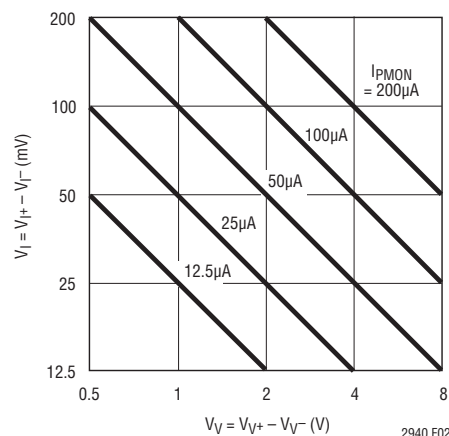
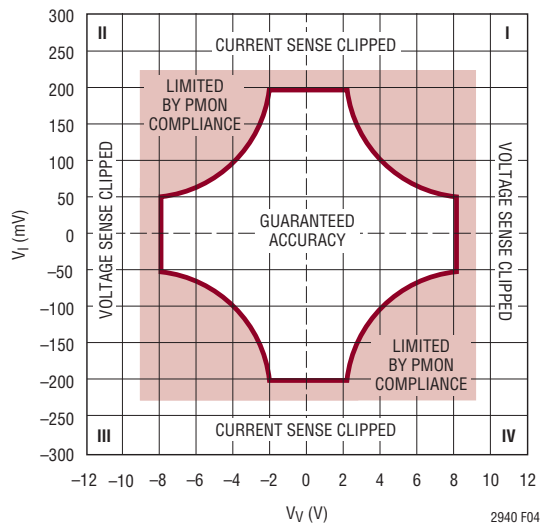
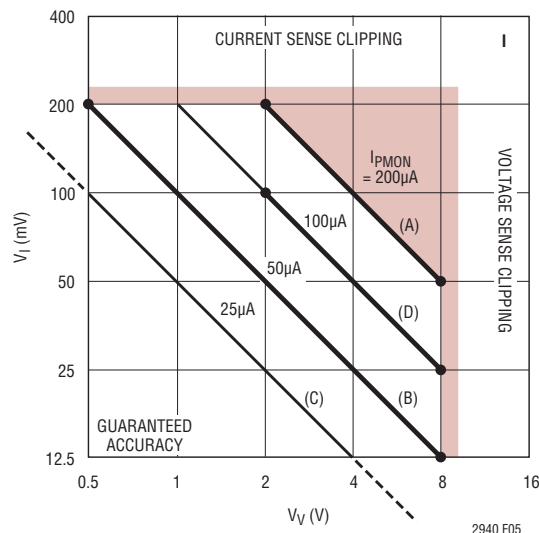

Figure 2. PMON Output Current as a Function of Sense Input Voltages
Figure 4. Multiplier Operating Regions vs Sense Input Voltages. Accuracy Is Derated in Shaded Areas
Figure 5. Various Constant-Power Curves in Quadrant I
The multiplier core full-scale product of $\pm 0.4V^2$ may be reached over a range of voltage and current inputs, as shown in Figure 2. For example, voltage sense and current sense combinations of 8V and 50mV, 4V and 100mV, and 2V and 200mV each multiply to $0.4V^2$, and thus produce 200 μA at PMON. This arrangement allows the core to operate at full-scale, and therefore at best accuracy, over a 4:1 range of current and voltage, a readily appreciated feature when monitoring power in variable supply applications.
The output current may be positive (sourcing) or negative (sinking) depending on the signs of V_{IN} , k_V , I_{IN} , and k_I . Provided that the magnitudes of V_V and V_I do not exceed 8V and 200mV as shown in Figure 2, at
The operating regions of the four-quadrant multiplier are illustrated in Figure 4. Note that while Figure 2's axes employed logarithmic (octave) scales to allow constant-power trajectories to be straight lines, Figure 4's axes are linear to better accommodate negative inputs. Constant-power trajectories are thus arcs.
Constant-power applications comprise power level alarm circuits, whether tripping a circuit breaker, activating auxiliary circuits, or simply raising an alarm, and single-level power servo loops. In such applications, accuracy is best when the full-scale output current of the LT2940 represents the power level of interest, i.e., the $I_{PMON} = 200\mu A$ load line (A) on Figure 5. Spans of voltage or current up to 4:1 naturally fit into the operating range of the LT2940.
Special constant-power applications are the same types of circuits (level measuring, servos) with additional restrictions. If operating within the guaranteed accuracy region of Figure 4 is important over voltage or current spans wider than 4:1, let a PMON current less than full-scale represent the power level. For example, the load line (B) of $I_{PMON} = 50\mu A$ in Figure 5 covers a span of 16:1 ($V_V = 8V$ to $0.5V$ and $V_I = 200mV$ to $12.5mV$). Note that operating along line (C), $I_{PMON} = 25\mu A$ allows a span of 32:1, but the channel offsets reduce the value of doing so. Operating